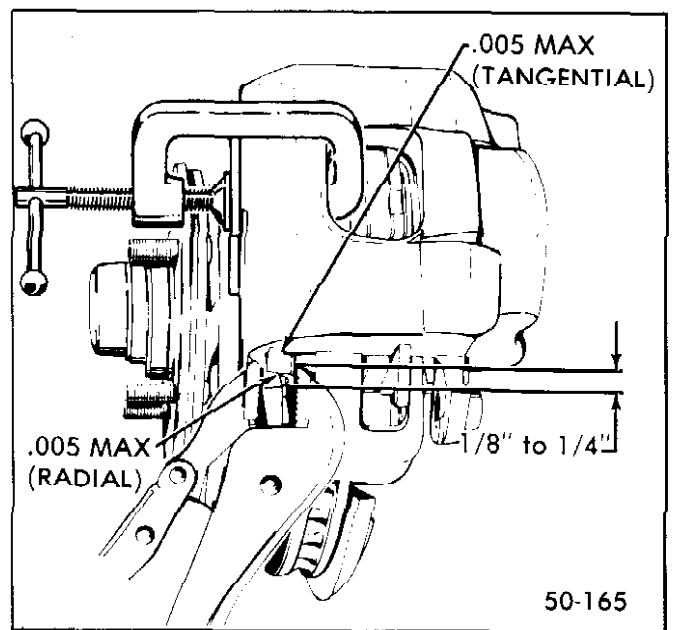

Figure 50-54--Clinching Outboard Shoe
7. Using vise-grip pliers, clinch both upper ears of the outboard shoe to prevent shoe rattle. Locate the pliers 1/8 to 1/4 inch from the outer edge of the shoe ear. See Figure 50-54. After clinching, measure the tangential and radial clearance between the caliper and the shoe ears. If the clearance exceeds 0.005 inch in either direction, re-adjust the pliers and repeat the clinching procedure.